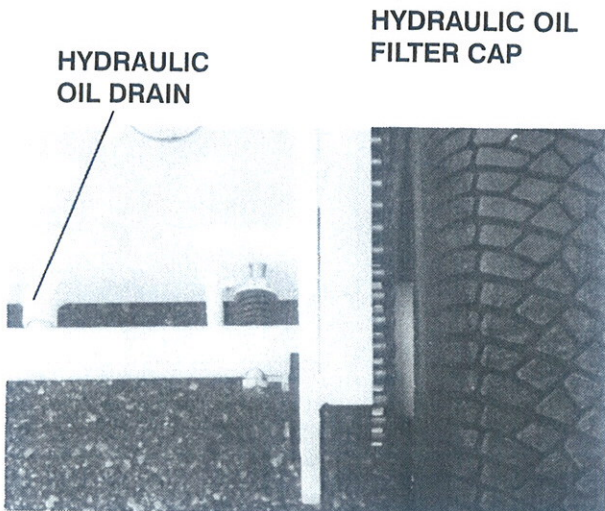

FIGURE 26
1. Remove the oil drain plug. See **Figure 26**, and drain the oil. Remove the oil cap to ensure a better flow.
To obtain proper chain tension, adjust the 4 tensioning nuts, (2 each side) to move the front axle forward or backwards. See **Figure 26**.